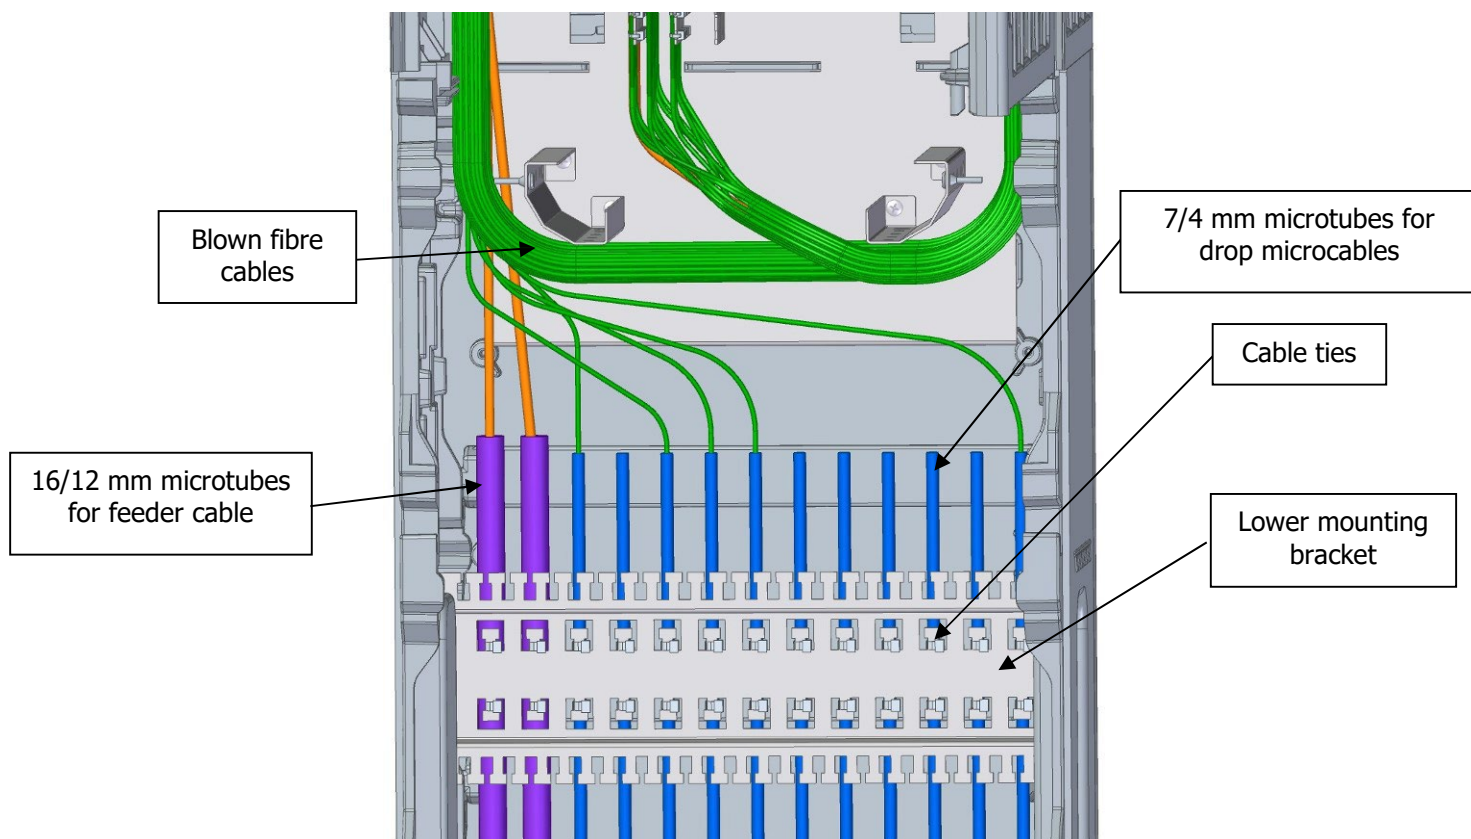
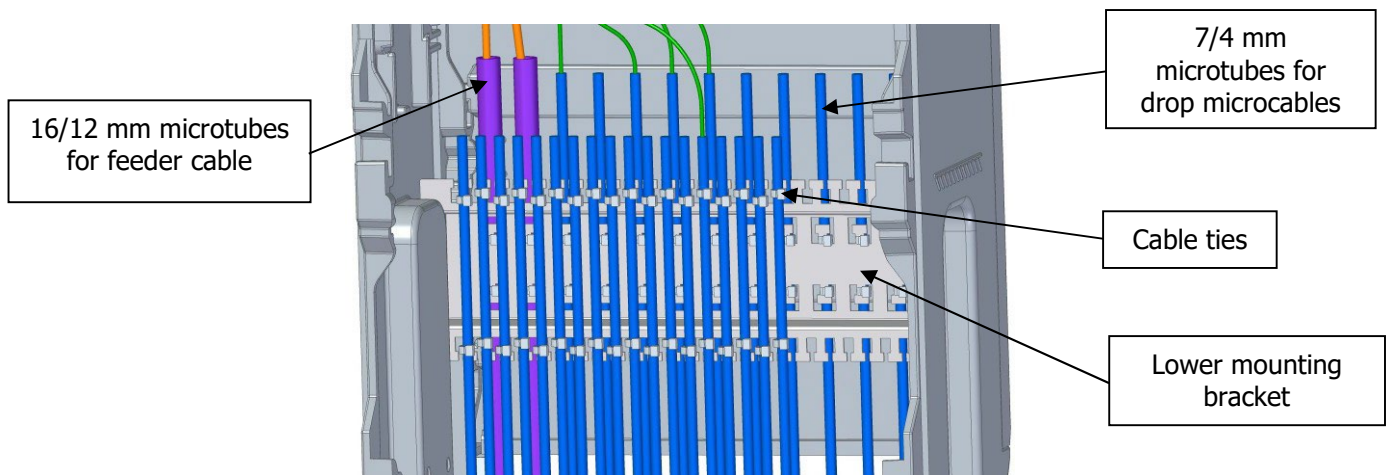

Fig.3. Installation of microduct layer closer to the cabinet back wall (front covers removed)
Fig.4. Installation of microduct layer closer to the cabinet front (front covers removed)
4. The cabinet accepts uncut feeder cable loops and drop cable microducts Fig. 3.
5. 16/12 mm microducts for feeder cable and 7/4 mm microducts for customer drop microcables are led to the cabinet. They will be used to blow feeder cable and drop cables to the cabinet. The layer of microducts closer to the back wall of the cabinet are fastened with two cable ties to the lower mounting bracket as shown in Fig.3. The layer of microducts closer to the cabinet front are fastened with two cable ties to the lower mounting bracket as shown in Fig 4.